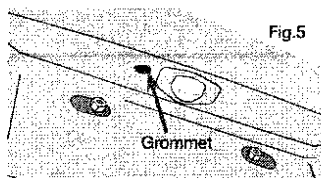

Fig.5
5. After you have drilled a hole, insert the supplied grommet as shown in Fig. 5, then pass the power cable through the grommet into the vehicle as shown in Fig.6. You must use the grommet to prevent the metal edge of the hole from cutting the power cable.